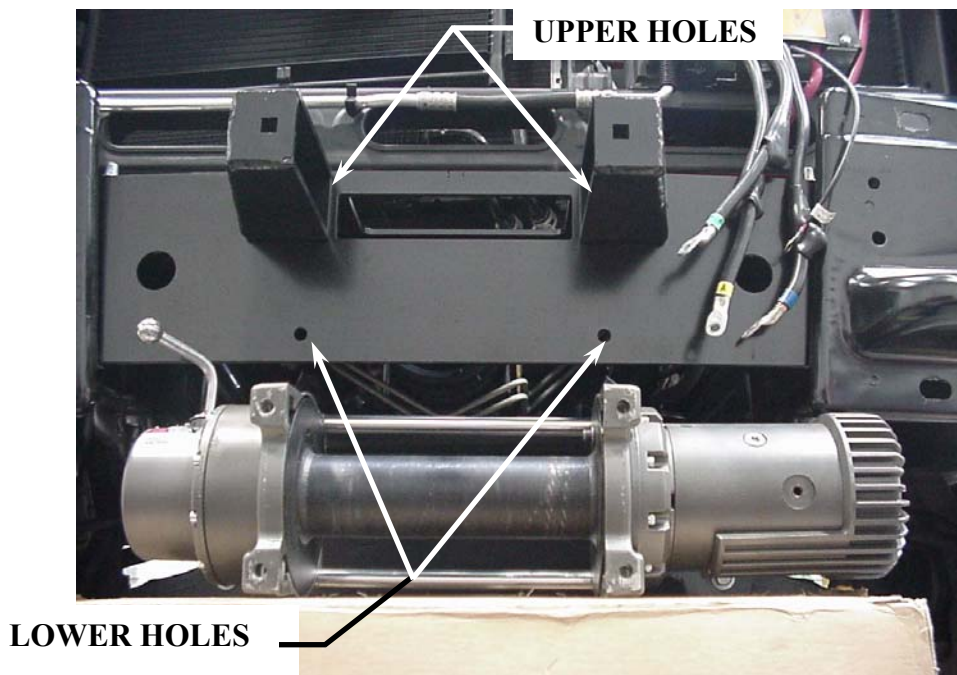

Figure 16
14. Install the winch, using $3/8'' \times 1-1/2''$ bolt in the upper two hole and $3/8'' \times 1-1/4''$ bolt in the lower two holes, **Figure 16**. Also see winch installation instructions supplied with winch. Tighten fasteners to proper torque specification.